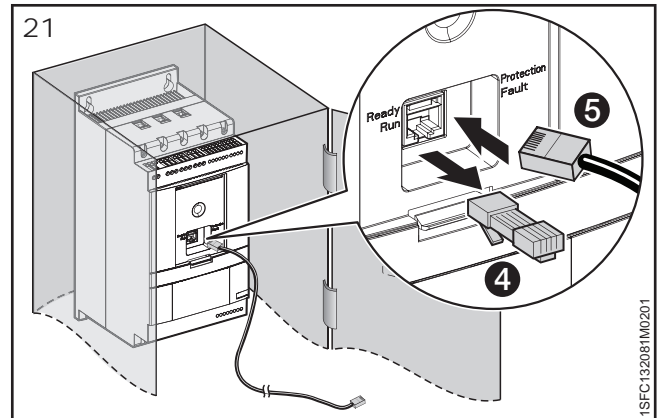

Figure 21: Connect one end of the network cable.
2. Drill a hole where the detachable HMI is to be mounted. Maximum size of the hole is Ø26 (Ø 1.02"), see ❶ in **Figure 21**. Put the rubber packing around the threaded network connector on the detachable HMI, see ❷ in **Figure 21**. Press the threaded network connector through the drilled hole. See ❸ in **Figure 21**. Fasten the plastic screw-nut on the threaded network connector, with 2 Nm (17.7 lb/in).
3. Remove the RJ45 plug see ❹. Connect one end of the network cable to the network port on the front of the softstarter ❺ in **Figure 21**.